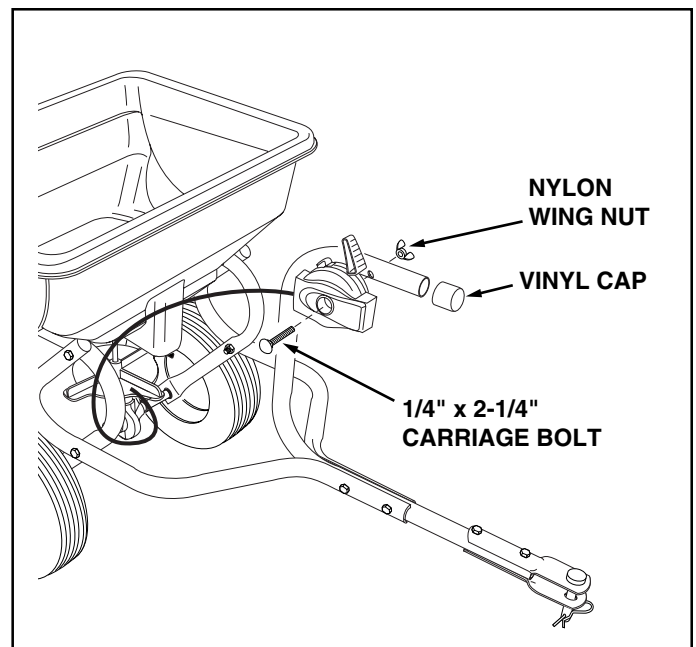

FIGURE 4
6. Assemble the vinyl cap onto the Hitch Control Tube. See figure 4.
7. Assemble the Control Cable to the Hitch Control Tube using the 1/4" x 2-1/4" carriage bolt and nylon wing nut. See figure 4.